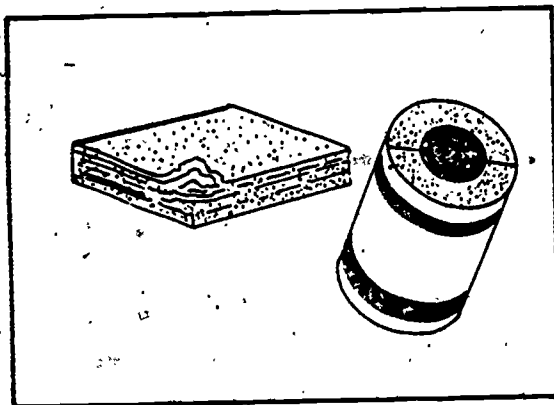

Figure 4-2. Sponge felt paper insulation.
b. **Sponge felt paper.** Sponge felt paper is composed of asbestos paper with a maximum amount of sponge evenly distributed within it, as shown in figure 4-2. It has approximately 37 to 43 laminations to the inch and is uniformly round, rigid, and closely constructed. Sponge felt paper is manufactured to fit most pipe sizes. It comes in 3-foot lengths and from 1 to 3 inches in thickness. Sponge felt paper can be purchased in blocks of straight and preformed shapes to be used on valves and fittings.